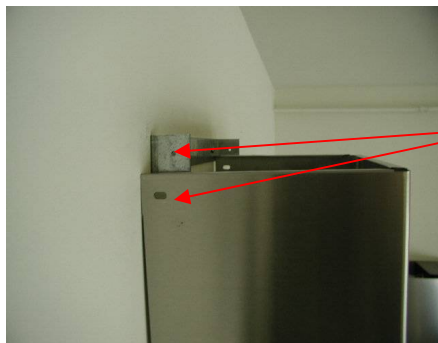

Figure 9
12. Adjust the height of the inner duct cover to the duct cover-mounting bracket. Secure inner duct cover with two (4x8 mm) screws (provided) as shown in Figure 9.